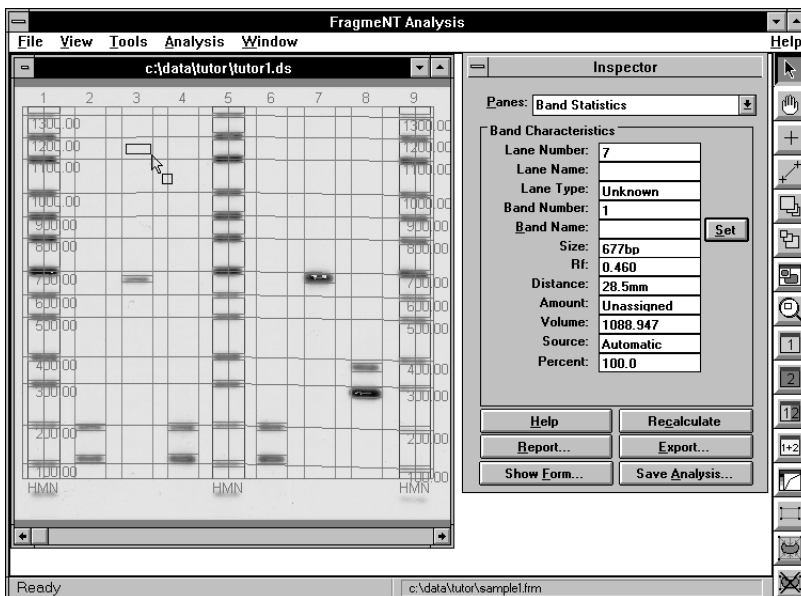

Figure 4-2. Editing bands.
For manually creating a band. Click the **Draw Band (Manual)** button, and then move the pointer to the area where you want to create a band. Drag the pointer diagonally to create a rectangle that surrounds the band (figure 4-2). When you release the mouse button, a band marker is inserted in the *center* of the rectangle you created.
2. Move the pointer to an empty spot in any lane of the Image window, and then drag the pointer to draw a rectangle (figure 4-2). When you release the mouse button, a band marker appears.